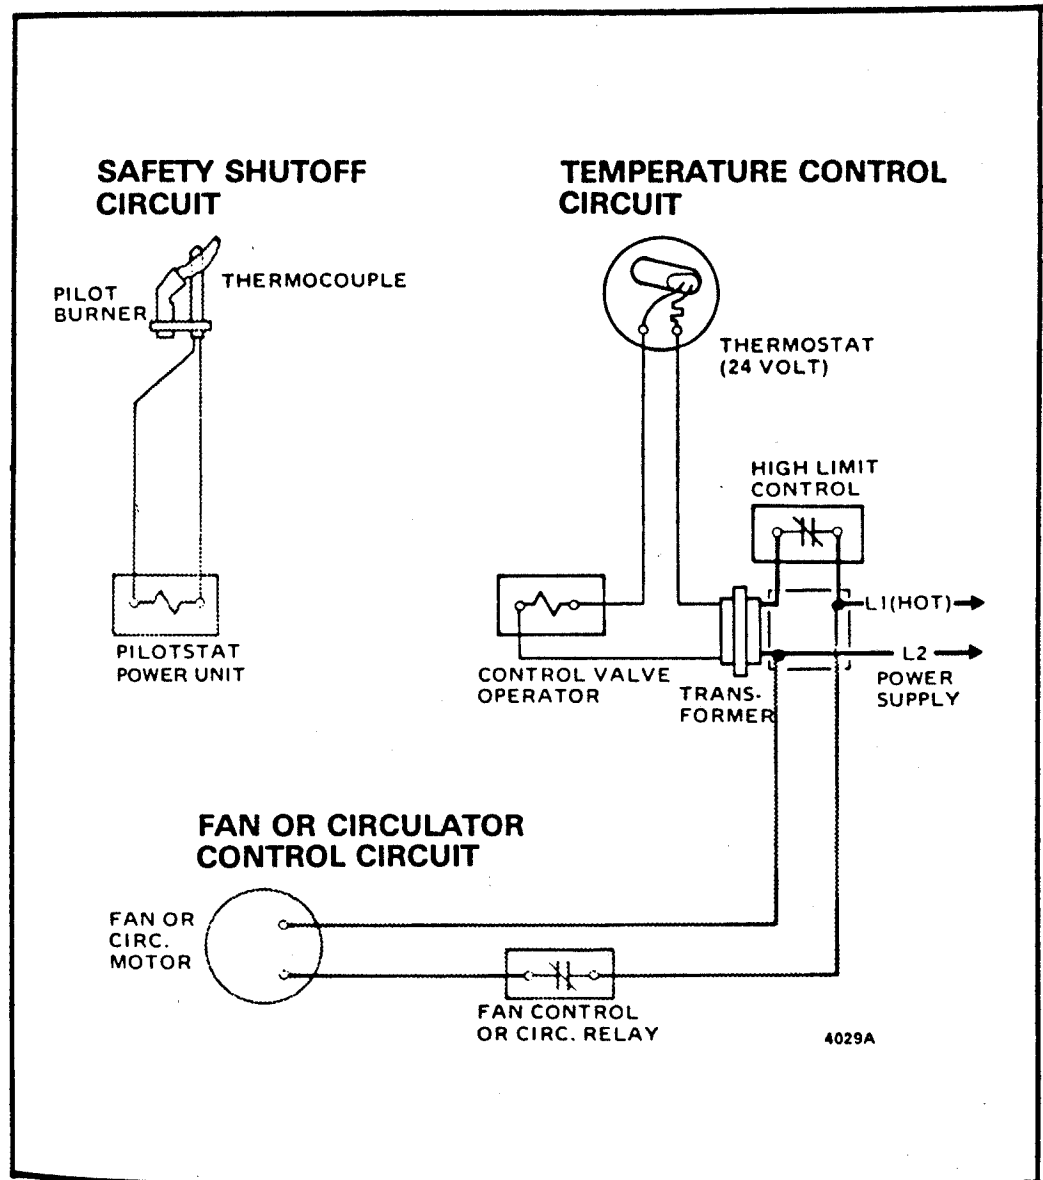

Fig. 66—Typical low voltage temperature control circuit.
2. If the main burner does not light, connect a voltmeter, or the W720 Systems Tester, between the transformer secondary terminals (Fig. 66).